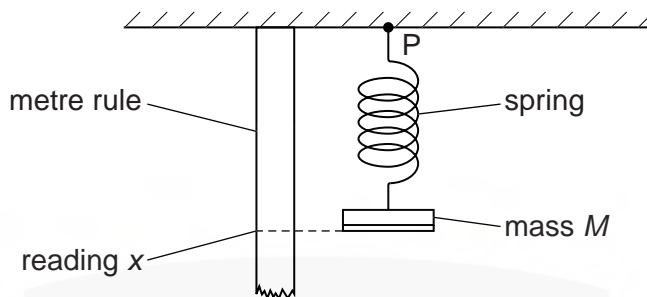
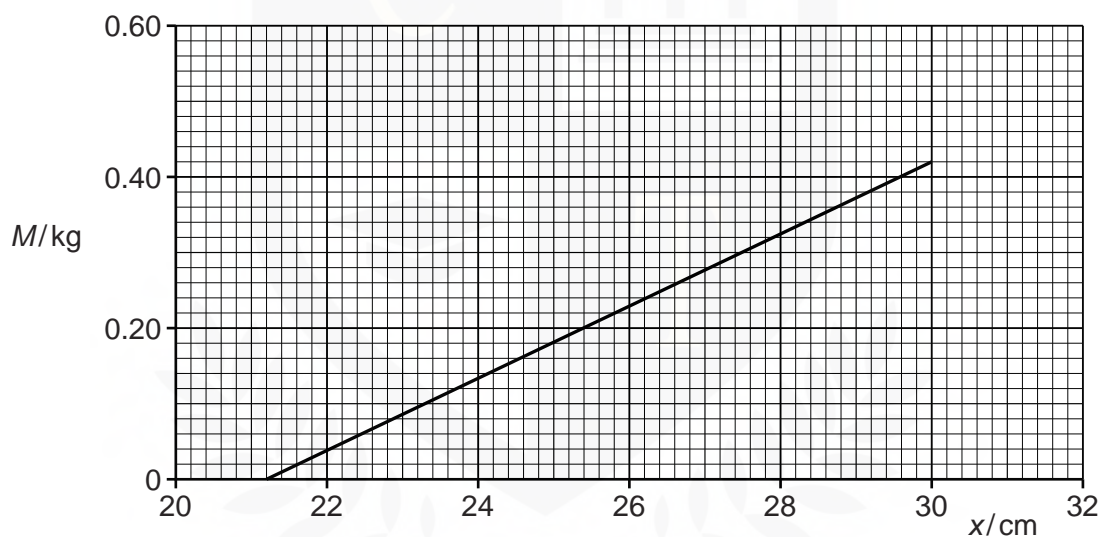

Fig. 4.1
Fig. 4.2
- 5 A spring hangs vertically from a point P, as shown in Fig. 4.1.
A mass M is attached to the lower end of the spring. The reading x from the metre rule is taken, as shown in Fig. 4.1. Fig. 4.2 shows the relationship between x and M .
- (a) Explain how the apparatus in Fig. 4.1 may be used to determine the load on the spring at the elastic limit.
- (b) State and explain whether Fig. 4.2 suggests that the spring obeys Hooke's law.
(c) Use Fig. 4.2 to determine the spring constant, in Nm^{-1} , of the spring.